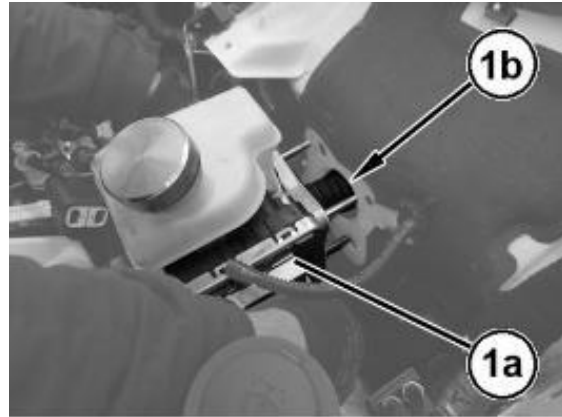

Figure 104 – ABS Module
- 48. Retract the ABS module (1a) and remove it releasing the push rod (1b) from the firewall (Figure 104).